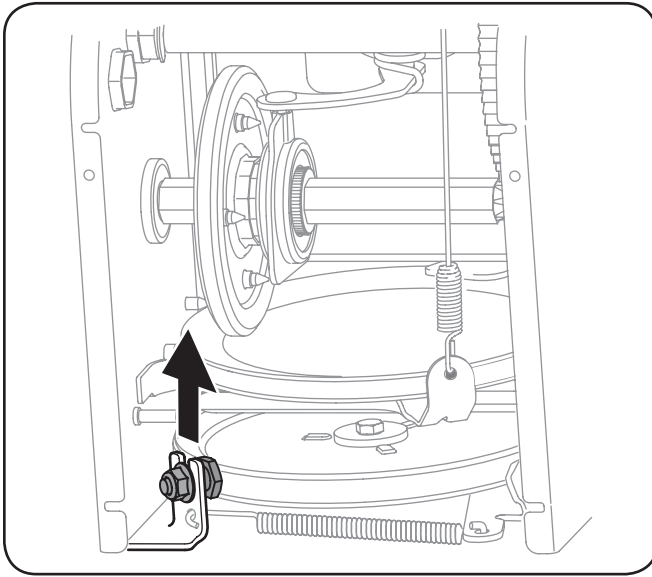

**Figure 7-5**
7. Loosen and remove the shoulder bolt which acts as a belt keeper. See Figure 7-5.